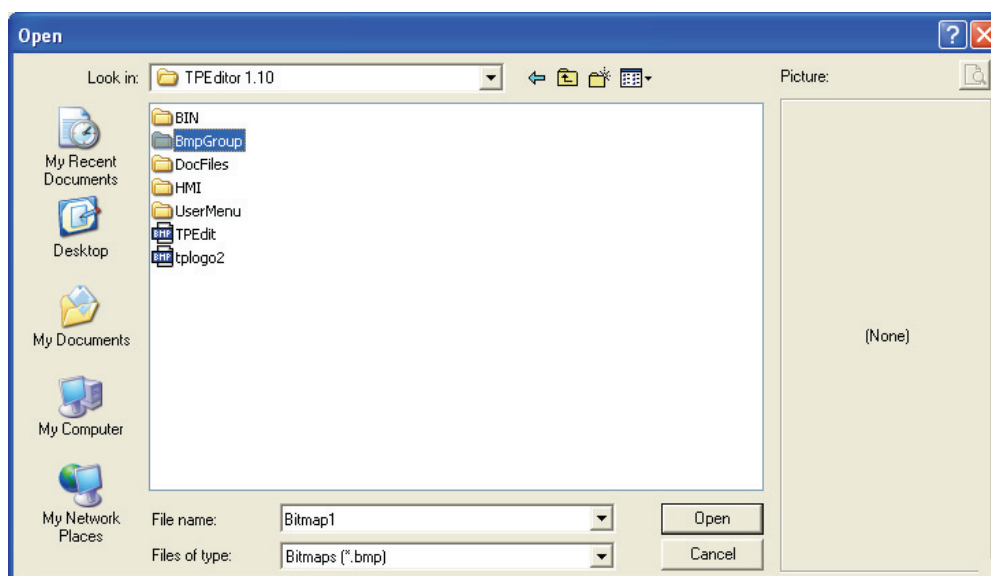
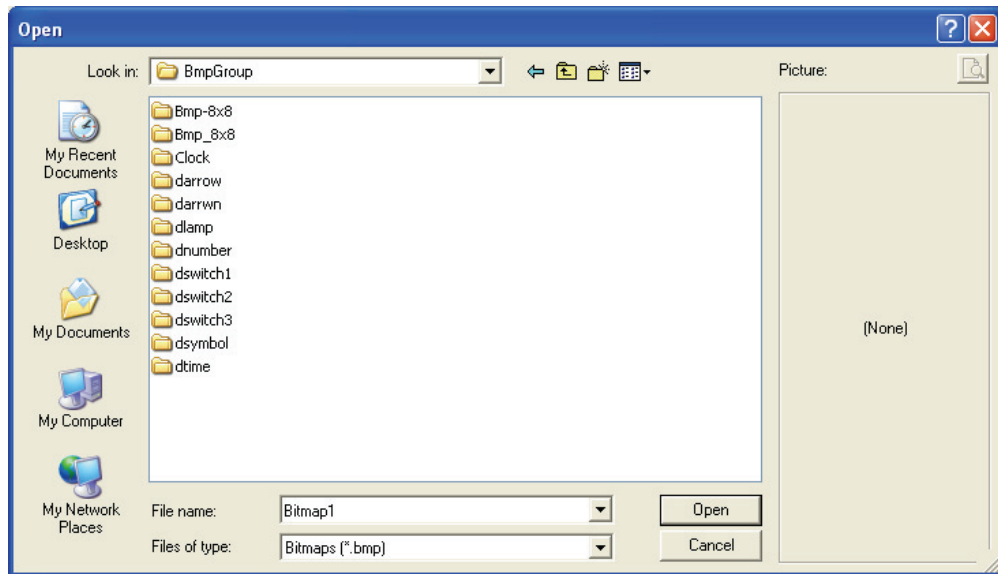
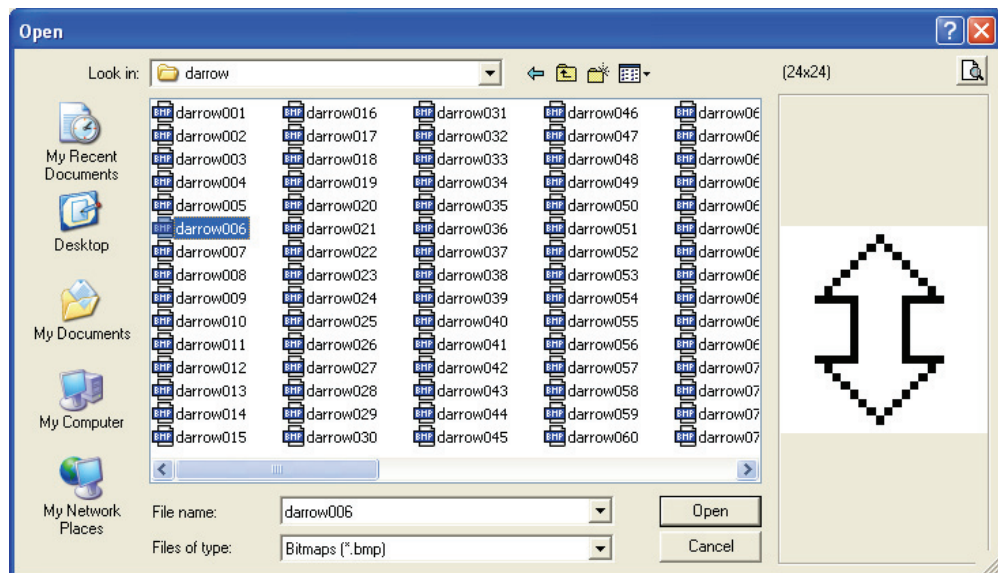

Figure 1-72
Figure 1-73
Figure 1-74
Step 4. TPEditor also provides built-in pictures for users to use. The built-in pictures are saved in the folder named as BmpGroup under the directory C:\TPEditor x.xx (x.xx is the software version of TPEditor). The built-in pictures include buttons, arrows, etc. for the users to use (Figure 1-72, Figure 1-73, Figure 1-74).